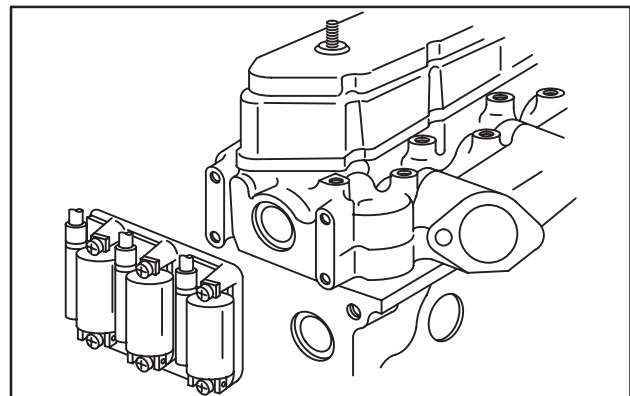

Fig. 4 – Remove Ignition Coil Bracket
2. Remove the following parts, Fig. 4: